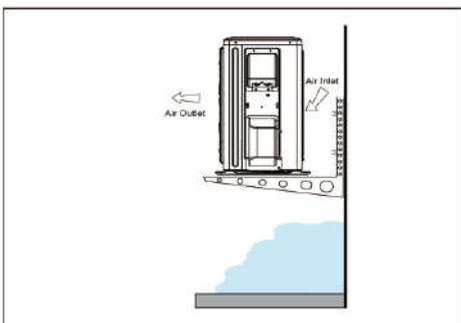

Fig 5.3.4. Outdoor Unit on Brackets above Snow Line
- The unit base should be elevated above the depth of average snows as illustrated in "Fig 5.3.4. Outdoor Unit on Brackets above Snow Line".